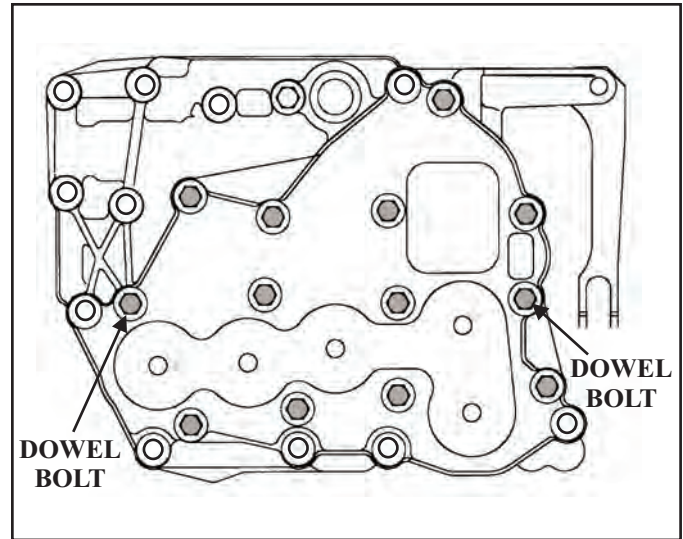

Figure 187
24. Install the two aligning dowell bolts and the remaining 11 connector plate cover to valve body retaining bolts as shown in Figure 187. Finger tighten only.